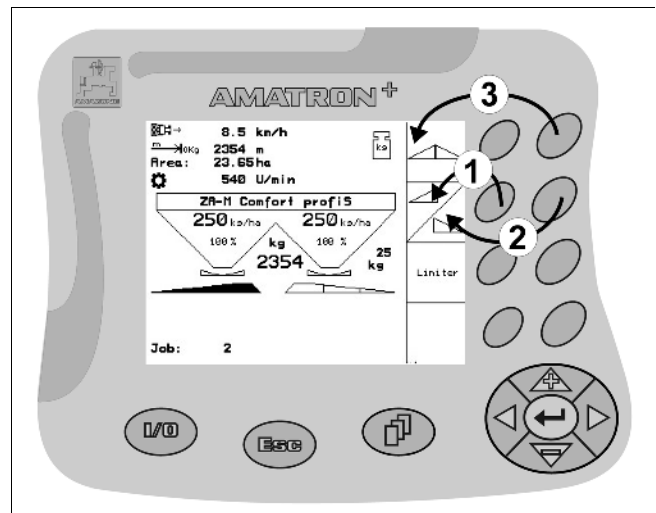

Fig. 8
- the left hand key is related to the top left function field (Fig. 8/1).
- the right hand key is related to the bottom right hand function field (Fig. 8/2).
If square fields appear on the display only the right hand key is related to the function field (Fig. 8/3).